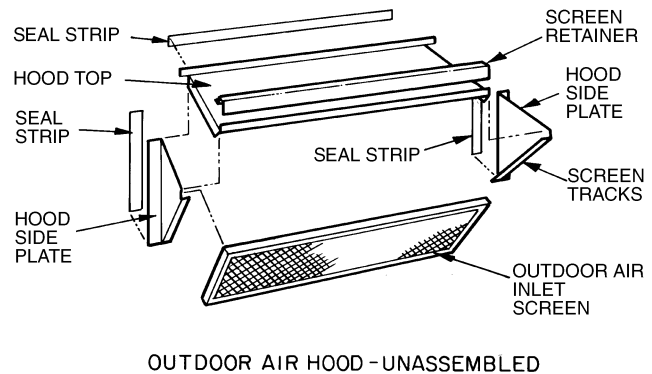

Fig. 11 — Outdoor-Air Hood Details
3. Assemble outdoor-air hood top and side plates as shown in Fig. 11. Install seal strips on hood top and sides. Put aside screen retainer and screws for later assembly. *Do not attach hood to unit at this time.*
10. Fasten hood top and side plate assembly (Fig. 11) to outdoor-air opening panel with screws provided.